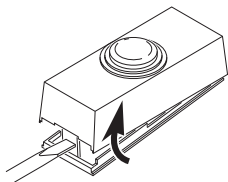
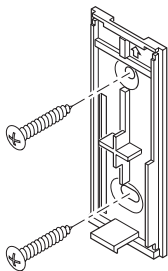

Figure 1
Figure 3
1. **Remove orange battery tab from push button.** Remove back of case by pushing in tab on bottom with a small screwdriver (see Figure 1). Remove orange battery tab.
- **Screw Mounting:** To mount with screws, remove back of case by pushing in tab on bottom with a small screwdriver (see Figure 1). *Note:* Remove material in screw holes (if needed) before mounting with screws. Attach back of case to door jamb or wall (see Figure 3). Snap front of push button on.